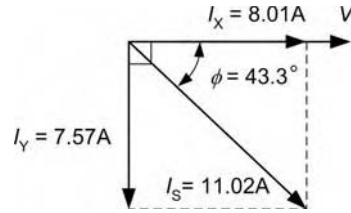

Figure 5.170 Phasor diagram showing total in-phase and total quadrature components in Example 5.86.
- (c) In order to determine the supply current we need to find the total in-phase current and the total quadrature current (i.e. the total current at 90°) as shown in Figure 5.170.